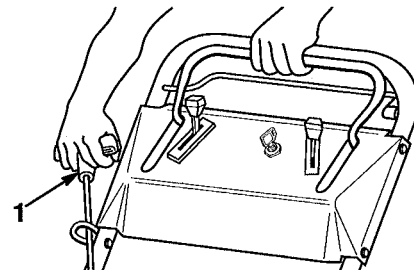

Figure 53
2. Slowly rotate engine several times, using starter rope, to distribute oil (Fig. 53).